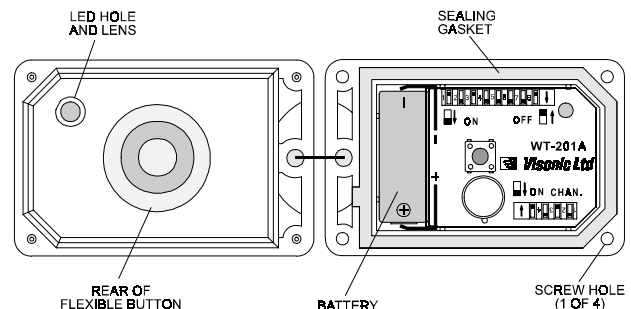

Figure 3. Inside View of the WT-201WP
- (1) Separate the two halves of the case and lay the unit down on its back as shown in Figure 3. Insert the 12V battery between the battery clips. Observe polarity!
- (2) Gently press the pushbutton switch and verify that the LED lights, indicating good battery condition.
- (3) Reassemble the two halves of the case and lay the unit face down. Put a screw in each of the four holes on the back (screws are supplied in a small bag packed with the unit). Carefully tighten all 4 screws with phillips screwdriver No. 1.